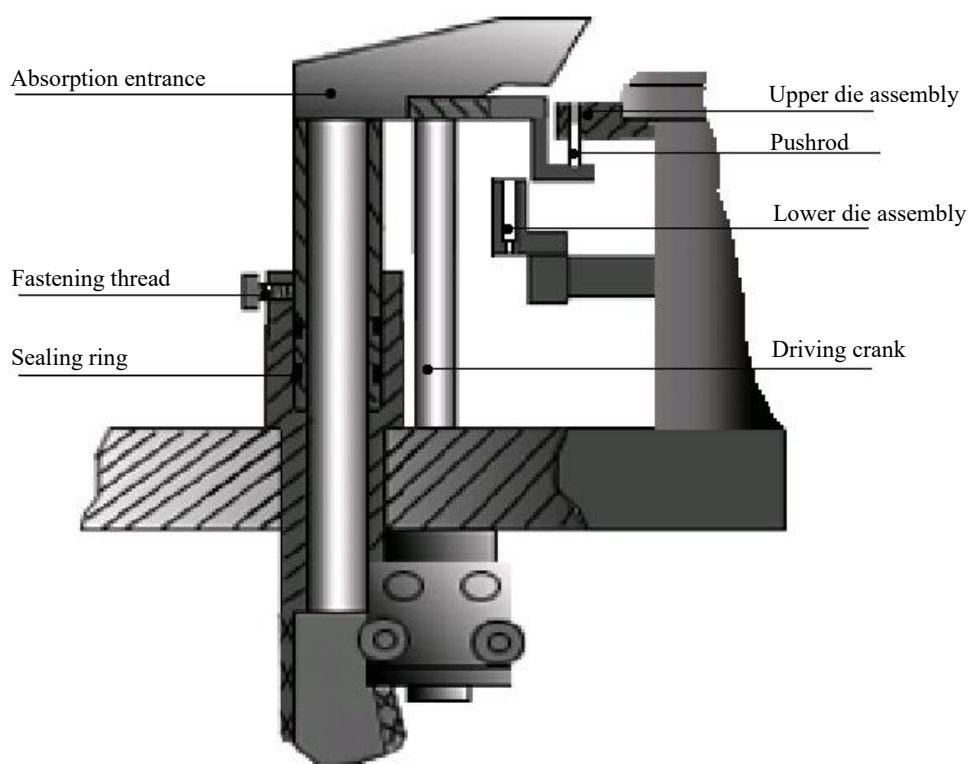

Fig. 23 Mechanism of Defect Capsule Rejection
5.2.9 Adjustment of defect capsule rejection (refer to Fig. 23, 24)